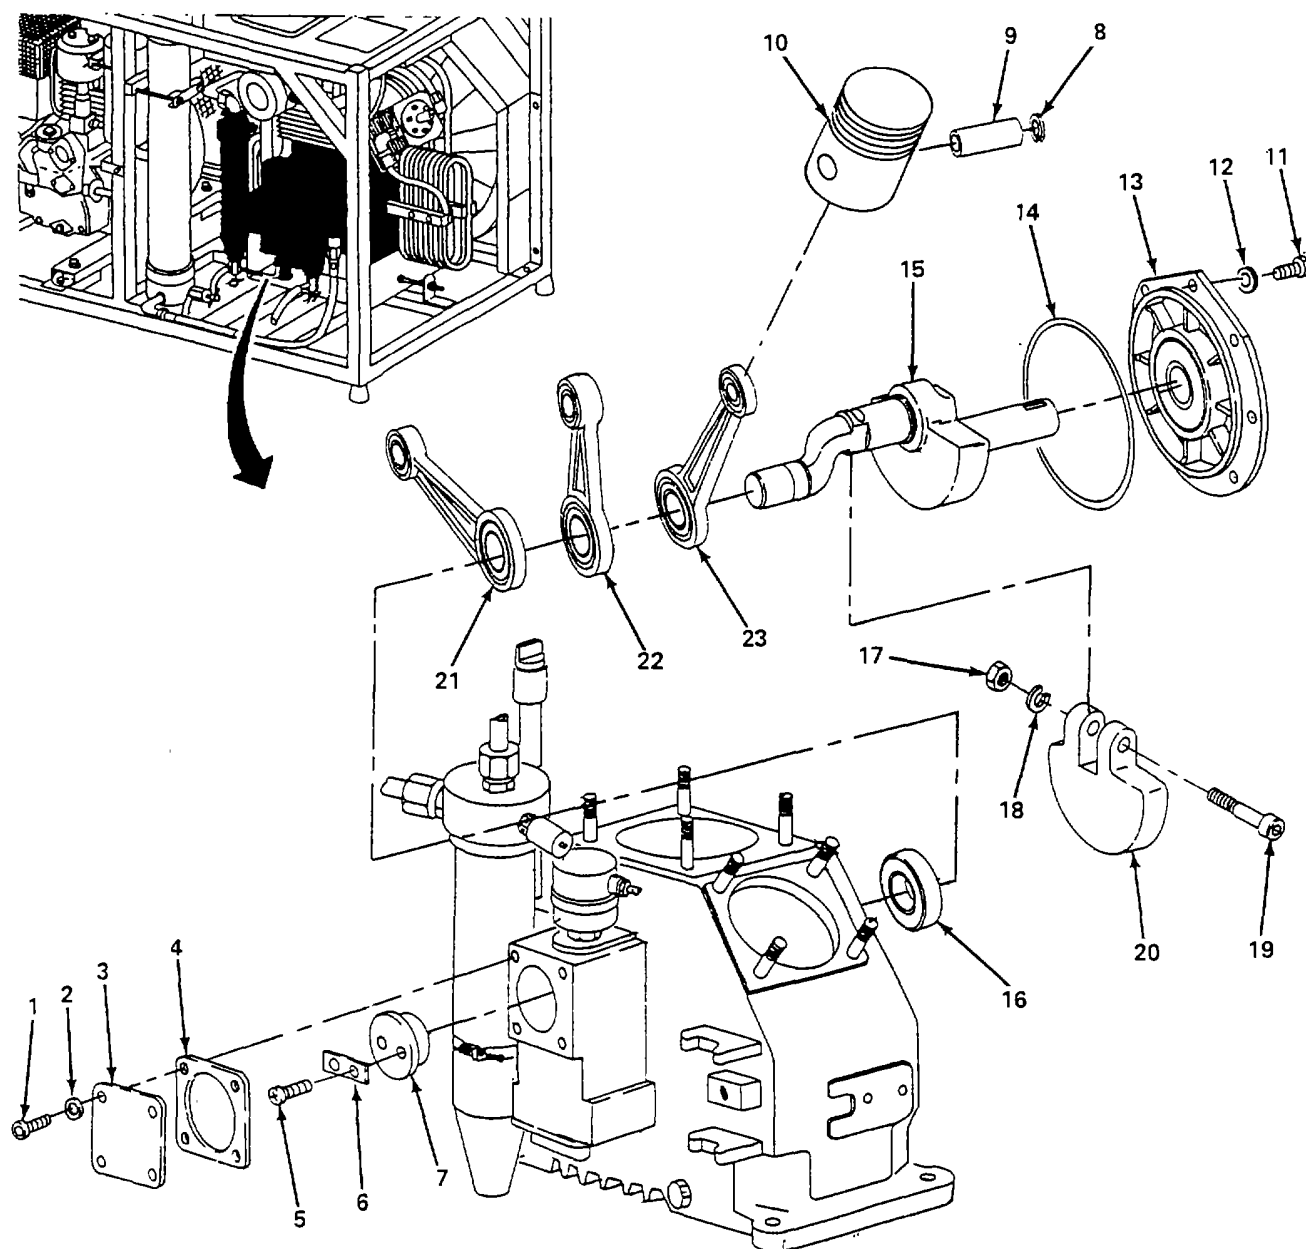

Figure 6-5. Second Stage Piston and Connecting Rod Assembly, Replace.
a. Replace. (figure 6-5)**WARNING**